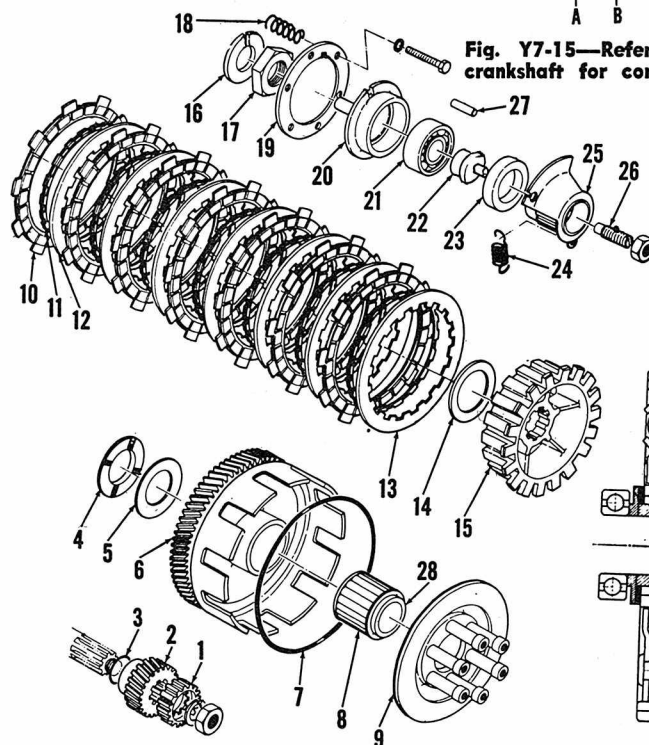

Fig. Y7-16—Exploded view of the clutch assembly. Inset shows cross section of clutch.
Clutch friction discs (10—Fig. Y7-16) should be renewed if less than 0.106 inch (2.7MM) thick. Thickness when new is 0.118 inch (3MM). Free length of clutch springs (18) should be 1.73 inches (44MM). Springs should be renewed if less than 1.65 inches (42MM). Inspect all parts for wear, warp or evidence of overheating. Some 1970 model year DS6-C units were produced with 40 MM clutch springs rather than 44 MM springs that are on all other models. These springs can be replaced with the normal 44 MM version.